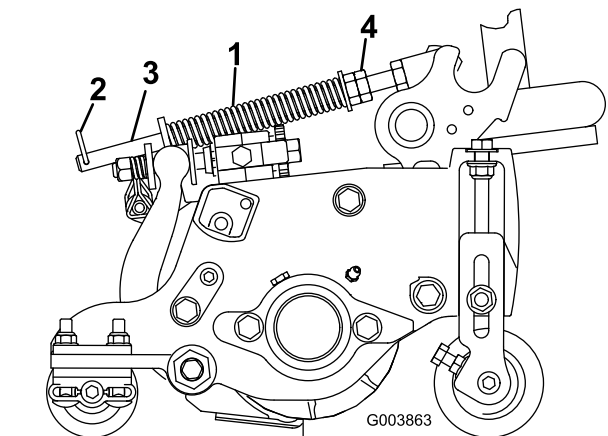

Figure 17
1. Make sure the hairpin cotter is installed in the rear hole in the spring rod (Figure 17).
2. Tighten the hex nuts on the front end of the spring rod until the compressed length of the spring is 15.9 cm (6.25 inches) (Figure 17).
Note: If the cutting unit must be removed from the machine, move the hairpin cotter to the front hole in the spring rod (Figure 17). Make sure to move the hair pin cotter back to the rear hole in the spring rod after the cutting unit is reinstalled to the machine.